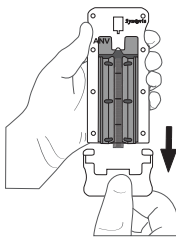

Figure 1
7. Remove ship clip from PSDV-SG loading unit. Discard ship clip (See Figure 1).